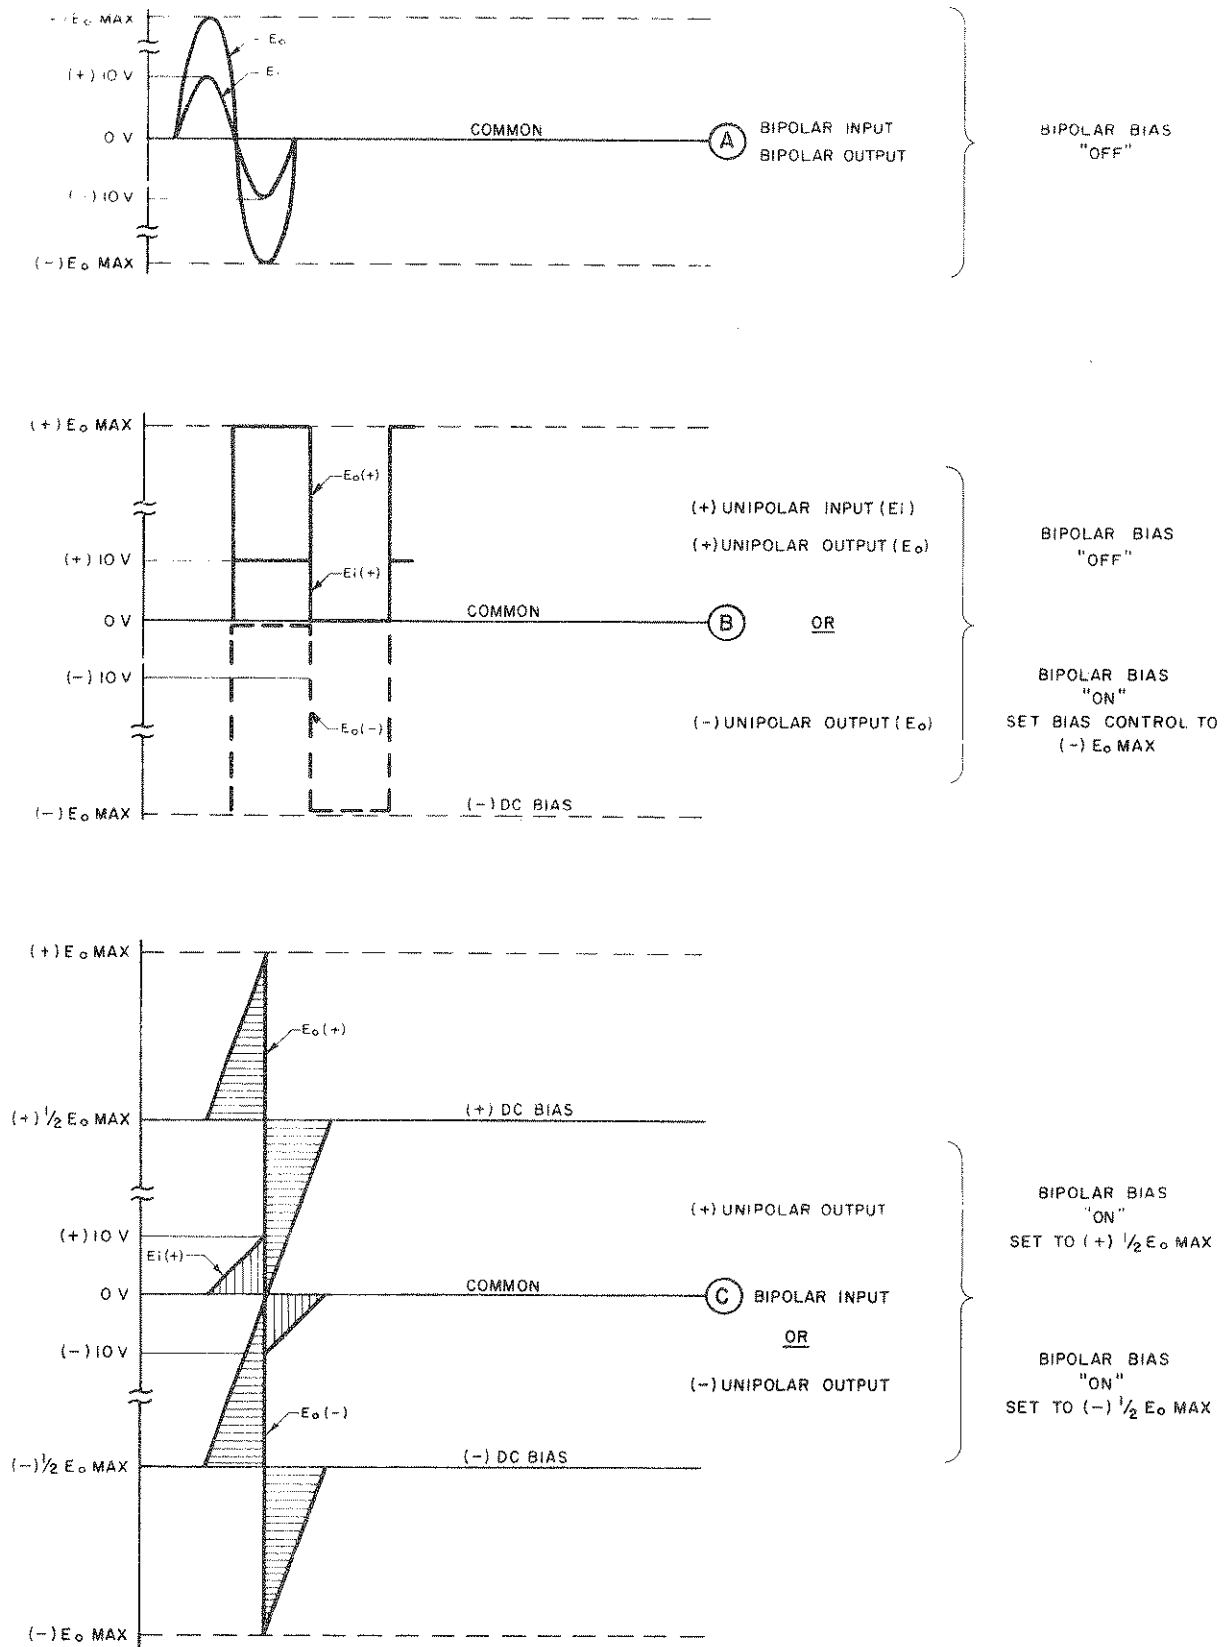
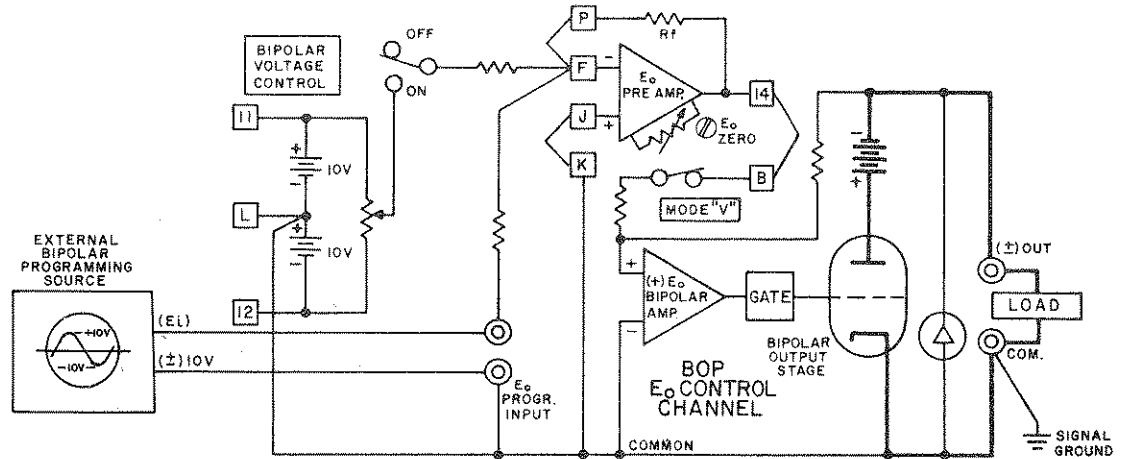

FIG. 3-8 GRAPHS OF POSSIBLE BOP INPUT/OUTPUT WAVE SHAPES
FIG. 3-9 BASIC PROGRAMMING CIRCUIT FOR USE OF THE BOP AS A BIPOLAR AMPLIFIER (VOLTAGE MODE)
- 3-24 The BOP can be used to amplify, sum or scale a variety of waveshapes, some of which are illustrated in FIG. 3-8. All input signals are shown in phase with their corresponding output waveshape. The latter can be readily produced 180° out of phase (i.e. with the output wave taking the exact opposite direction of the input signal) by addressing the non-inverting input of the E_O PRE-AMP instead of the front panel E_O PROGRAM INPUT (Inverting).
3-25 The basic programming circuit with which all the wave forms shown in FIG. 3-8 can be produced is shown in FIG. 3-9. Since all input signals in FIG. 3-8 are shown with a ± 10 volt amplitude, the basic programming circuit in FIG. 3-9 must be modified if the external signal source cannot produce 10 volts and if the full BOP output voltage swing is required.